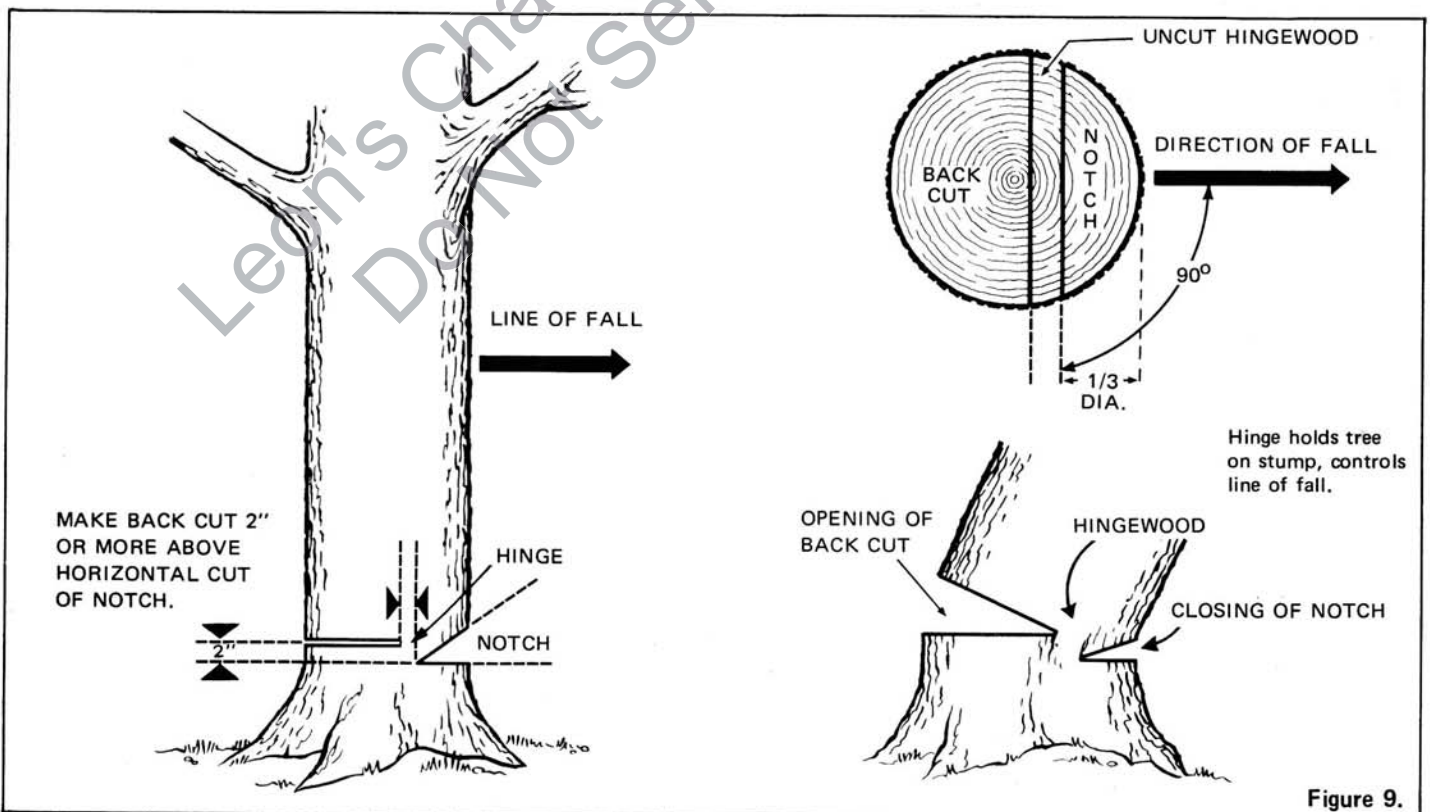

Figure 9.
2. Control of the tree—preventing it from twisting off the stump or falling in an uncontrolled direction—is achieved by proper notching and back-cutting, the back cut (felling cut) being made at least 2 inches higher than the horizontal cut of the notch as shown in Figure 9. Always leave a section of wood between the notch and back cut to act as a hinge. Never cut right through to the notch, as a tree left without hingewood is uncontrollable.